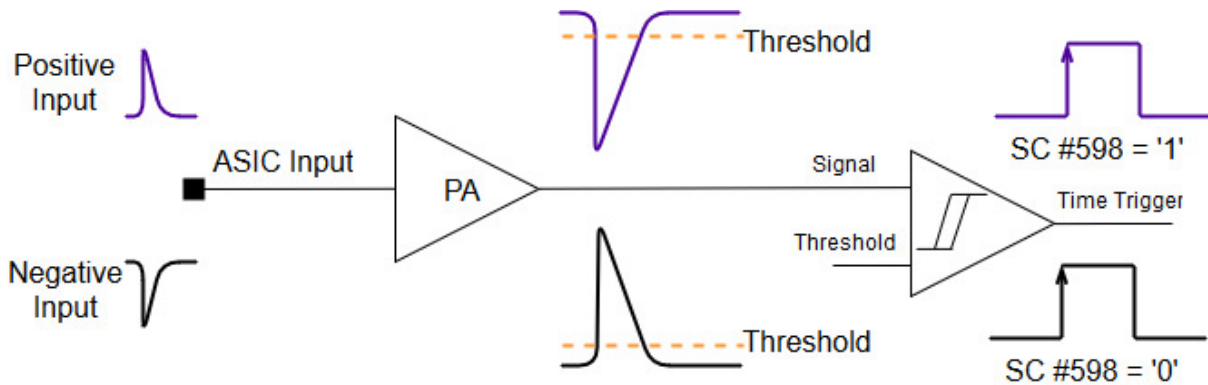

Figure 7 - Time trigger polarity
- cmd_polarity (bit #598) – selecting the correct trigger output polarity based on input signal. '0' for negative input signal, '1' for positive input signal (Figure 7).